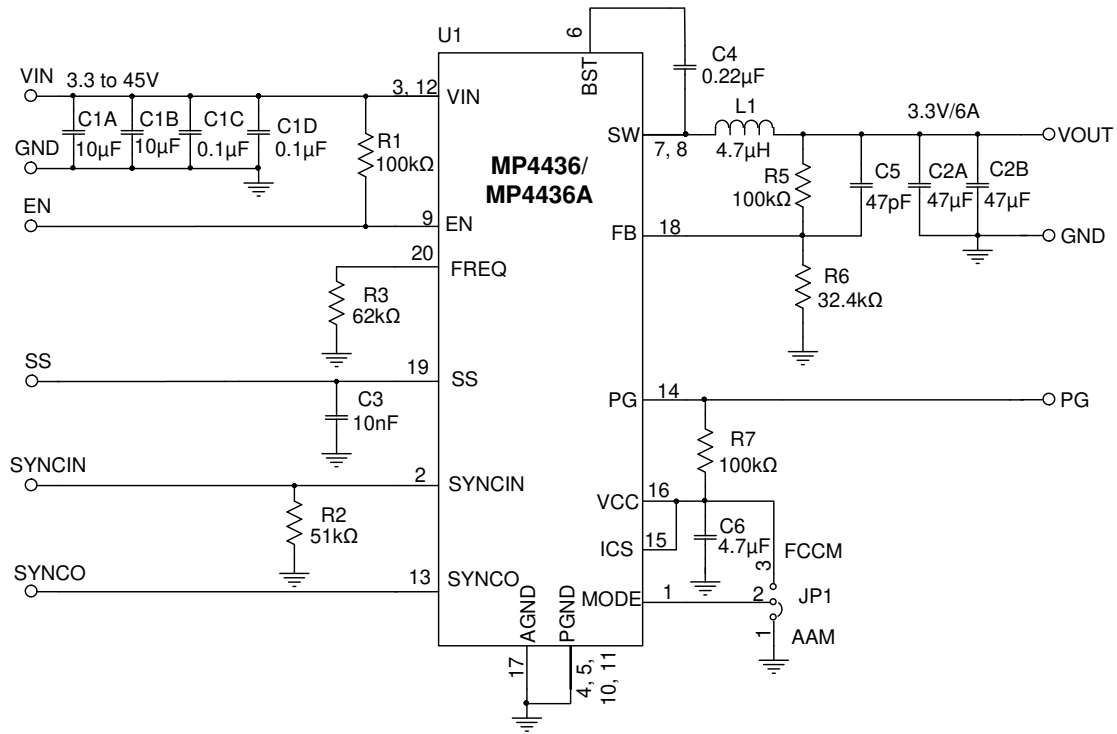

Figure 12: Single-Phase, V_{OUT} = 3.3V, f_{sw} = 470kHz
9) The recommended PCB layout is based on Figure 12.